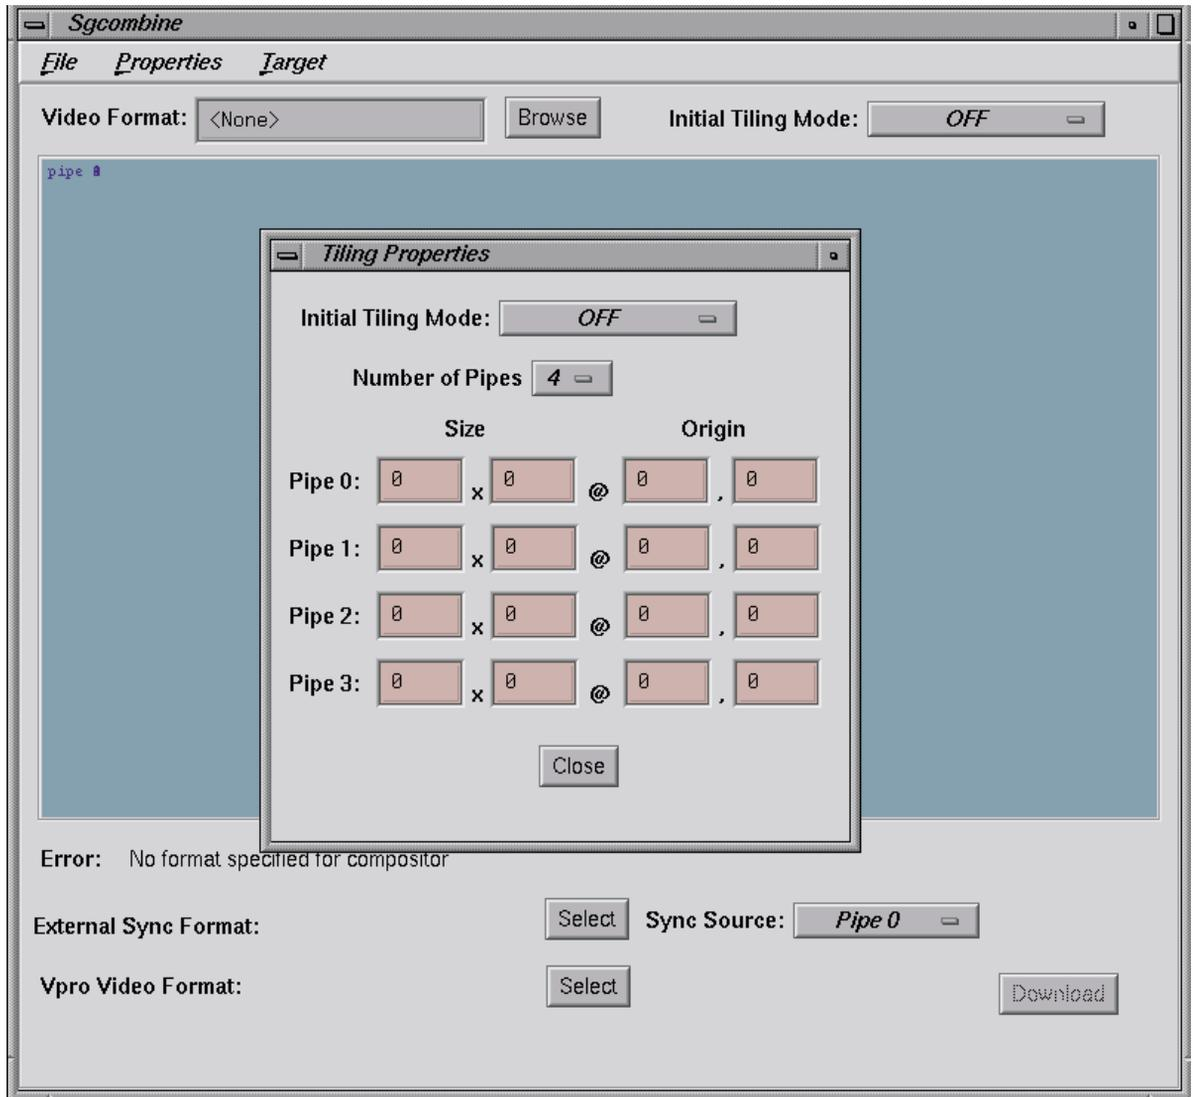

Figure 4-4 Tiling Properties Window Example
5. From the **Sgcombine** main window, select **Properties**, and then select **Tiling Properties**, to see the **Tiling Properties** window shown in Figure 4-4. Select options as follows: